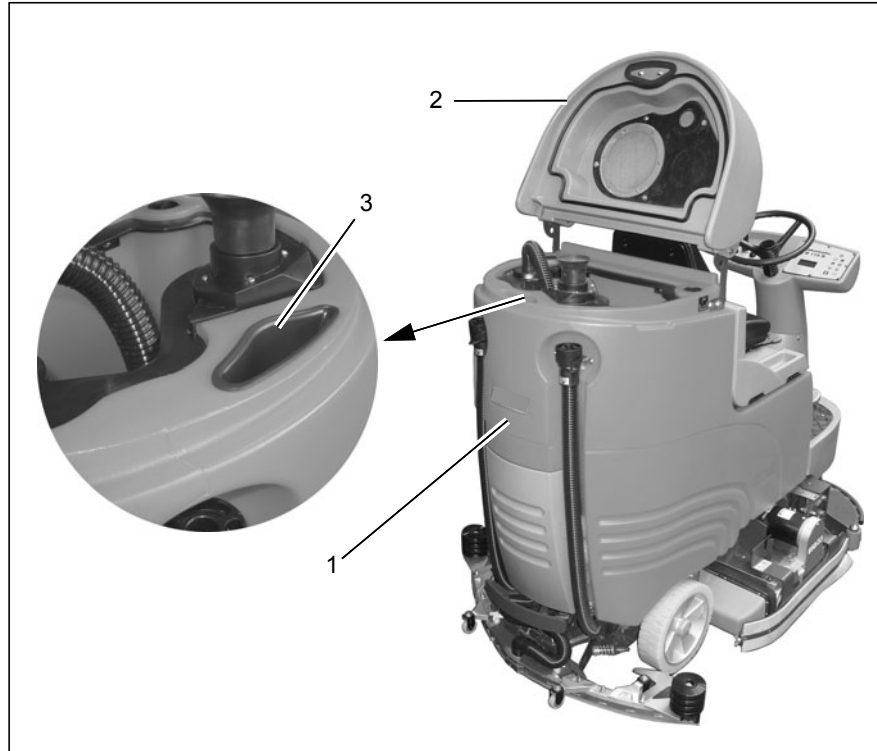

Fig.10
1. Fill the clean water tank (Fig. 10/1) before starting work or as necessary. Park the vehicle on a level floor area.
2. Open the tank cap (Fig. 10/2) and fill the clean water tank through the opening (Fig. 10/3) (max. temperature 50°C).